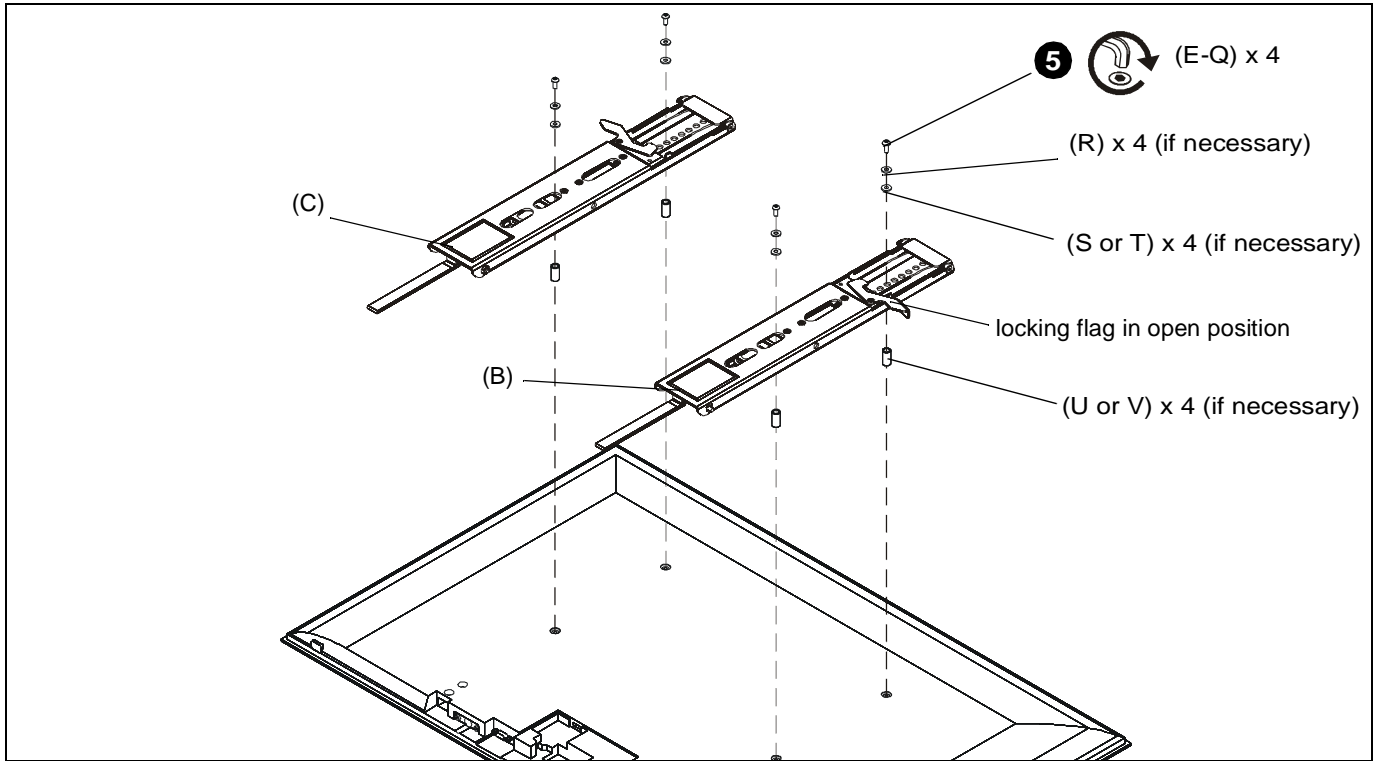

Figure 4
5. Install four button head cap screws (E-Q) through required washers (R) and shoulder washers (S or T), interface brackets (B and C), spacers (U or V) and into holes on back of display. (See Figure 4)
NOTE: Make sure locking flags are in the open position before attaching display to wall plate. Flags are shown in the open position in Figure 4.